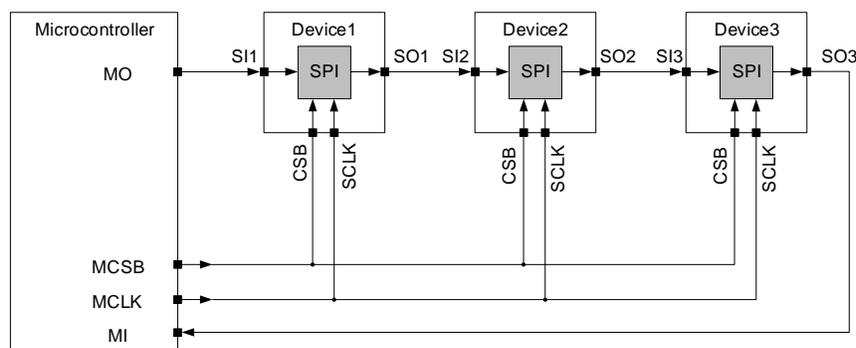

Figure 19. SPI Daisy Chain
The device is designed to support daisy chain operation with other devices that utilize the same SPI protocol, as demonstrated in Figure 19. In this setup, the controller's output (MO) is connected to the serial input (SI) of the first target device. The serial output (SO) of this device is then connected to the SI of the next target, forming a chain. The SO of the last target in the chain is linked to the controller's input (MI), thereby completing the SPI communication loop.